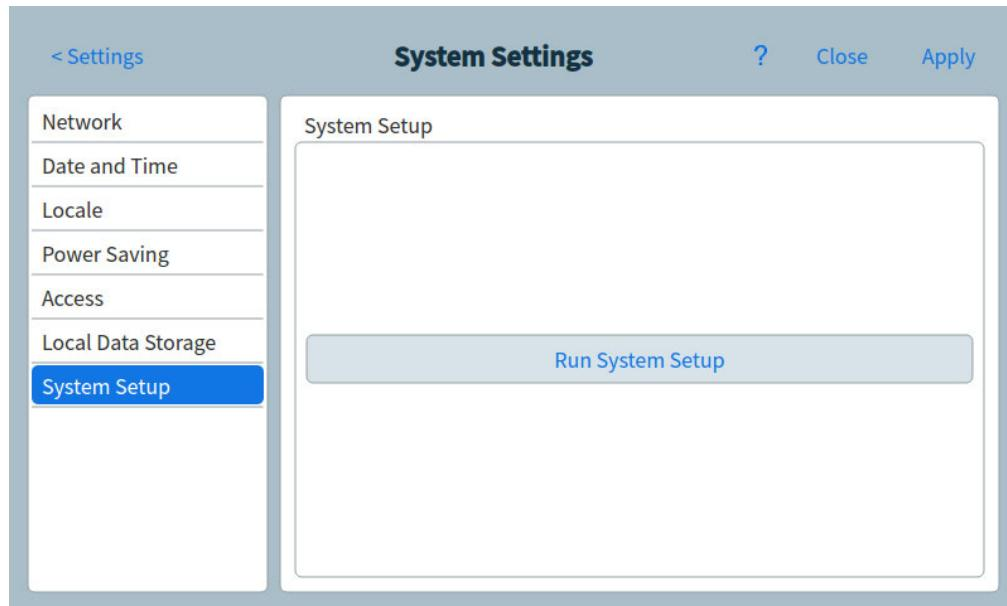

Figure 52. System Setup page
- From the System Settings page, select the **System Setup** page selection button. The System Setup page appears. See Figure 52.